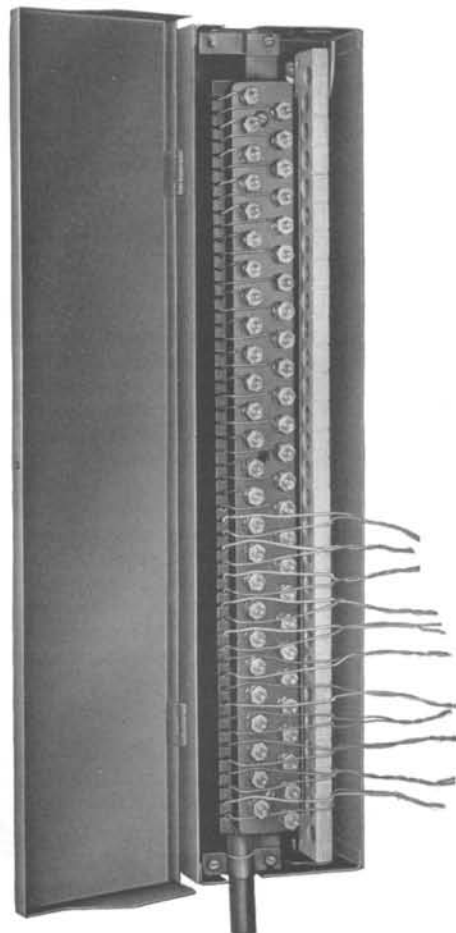

FIG. 4—TERMINATING INSIDE WIRING CABLE
- Fan cable conductors, using the color code shown in Table A, and place each conductor in the slot of the fiber fanning strip opposite the proper binding post (see Fig. 4).